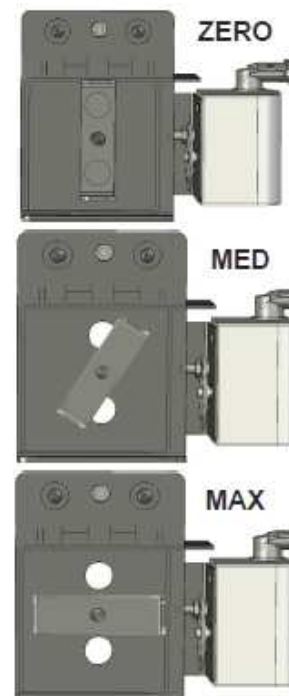

Figure 6.1
In order for your new furnace to function, the controls must be properly adjusted. The heat output is regulated by the automatic draft control, on the bottom door of the furnace. Refer to the illustrations that follow; The electric draft motor (A) opens and closes the flapper door (B). The flapper door opens to feed more air to the fire and closes to reduce the air to the fire. The maximum air flow can be adjusted by turning the adjuster bolt (C) counter-clockwise for more air and clockwise for less air. NOTE: To preserve motor life, all adjustments of this bolt should be done while the flapper door is in the closed position. The idle adjuster (D) controls the minimum amount of air that enters the firebox when the flapper door is closed. Adjustment is made by turning the adjuster vertical for zero air, or horizontal for maximum idle air. It is best to start at a medium setting as shown in Figure 6.1.